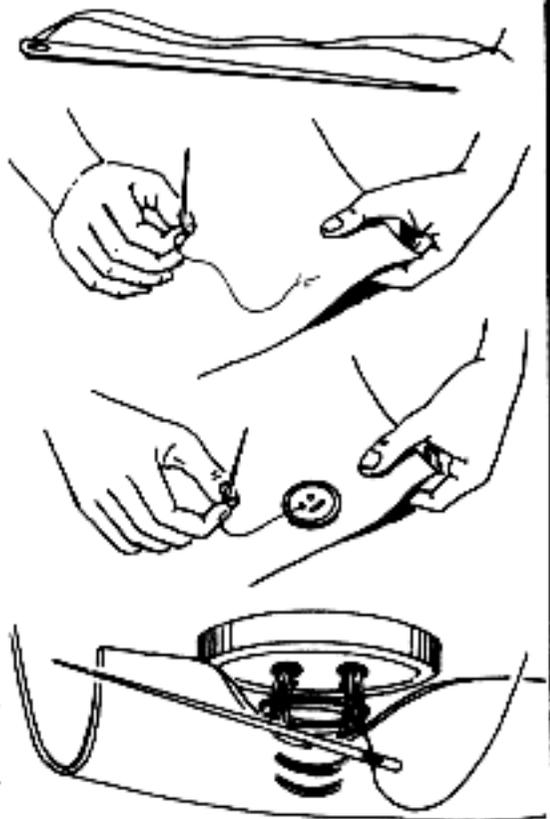

Figure 1-4. Replacing a button.
**Replacing buttons.** Before replacing a button, select thread that closely matches the color of the material. If this is not possible, use the thread you have. Figure 1-4 shows how to replace a button.